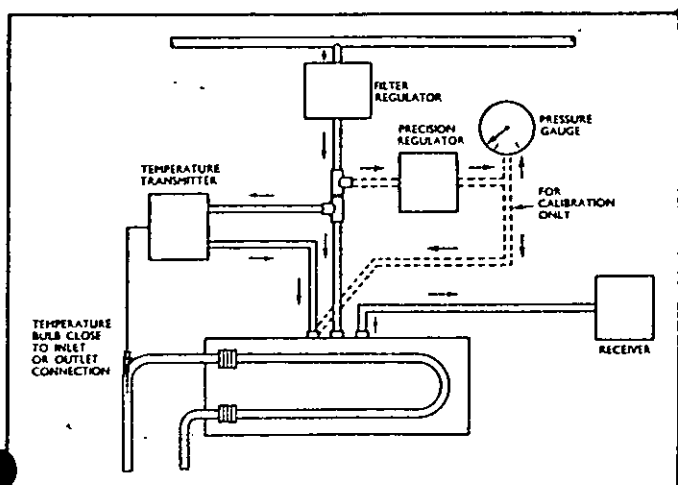

Fig. 5
- 5.1 Connect a clean dry regulated air supply of 1.4 bar (20 p.s.i.g.) to the supply connection fig. 5 (4.1 - 4.4).